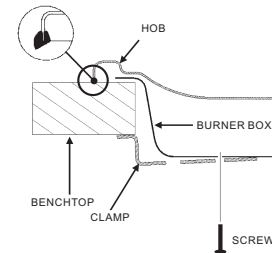

Fig. 1B
- A RUBBER SEAL** has been provided for **square metal cooktops** only. This is to be applied around the edge of the hob (Fig.1B). **Note:** The rubber seal has had talc powder applied to its surface which should be wiped off with a damp cloth after the unit has been installed.
- PULL DOWN CLAMPS** (Square cooktops) are supplied. When the appliances is in position attach the clamps to the underside of the benchtop and lightly tighten (Fig. 1B).